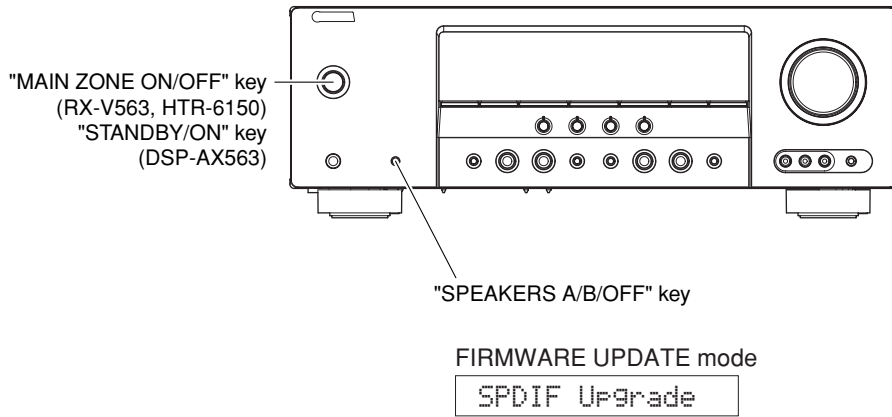

Fig. 2
- While simultaneously pressing the "MAIN ZONE ON/OFF" (RX-V563, HTR-6150) / "STANDBY/ON" (DSP-AX563) and "SPEAKERS A/B/OFF" keys of this unit, connect the power cable of this unit to the AC outlet. (Fig. 2)
The FIRMWARE UPDATE mode is activated and "SPDIF Upgrade" is displayed. (Fig. 2)